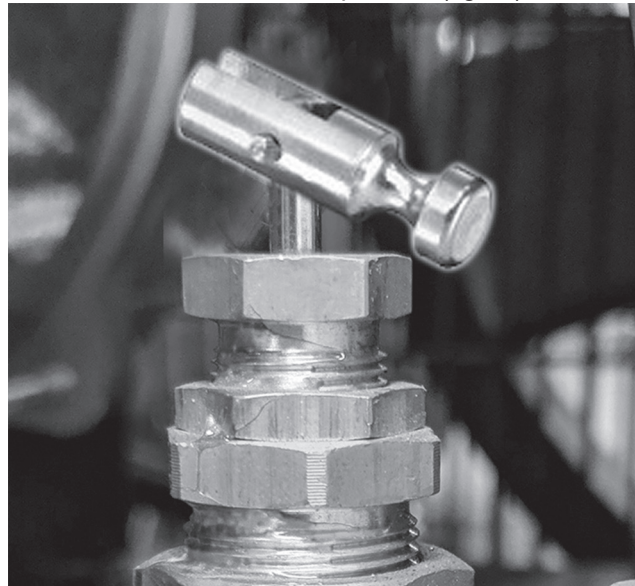

fig.13 Pressure relief knob- run position
13. After unit is warm, put the compressor pressure relief valve back into run position (fig.13).